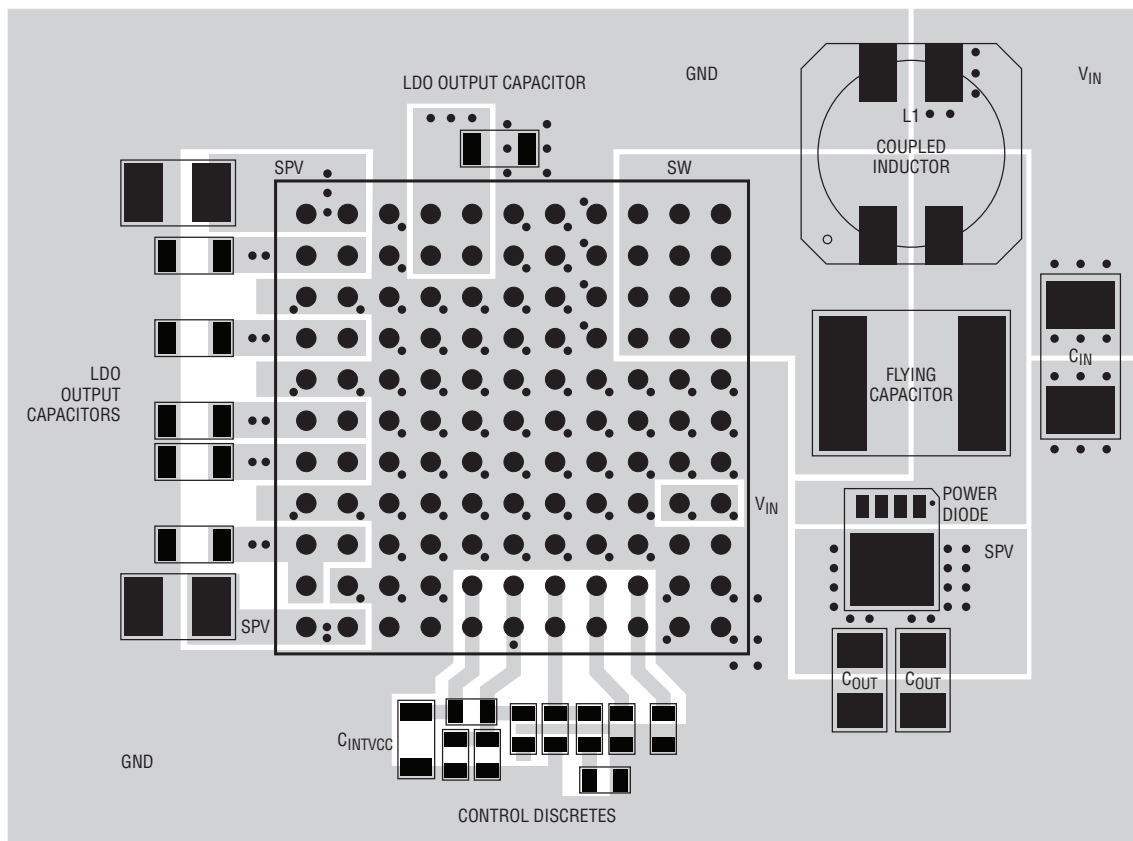

Figure 3. Layout Showing Suggested External Components, GND Plane and Interconnect/Thermal Vias
The LTM8008 is a switching power supply, so care must be taken to minimize EMI and ensure proper operation. Even with the high level of integration, you may fail to achieve specified operation with a haphazard or poor layout. See Figure 3 for a suggested layout. Ensure that the grounding and heat-sinking are acceptable. Here are additional tips to follow:
5. For good heatsinking, use vias to connect the GND copper area to the board's internal ground planes. Liberally distribute these GND vias to provide both a good ground connection and thermal path to the internal planes of the printed circuit board. Pay attention to the location and density of the thermal vias in Figure 3. The LTM8008 can benefit from the heat-sinking afforded by vias that connect to internal GND planes at these locations, due to their proximity to internal power handling components. The optimum number of thermal vias depends upon the printed circuit board design. For example, a board might use very small via holes. It should employ more thermal vias than a board that uses larger holes.